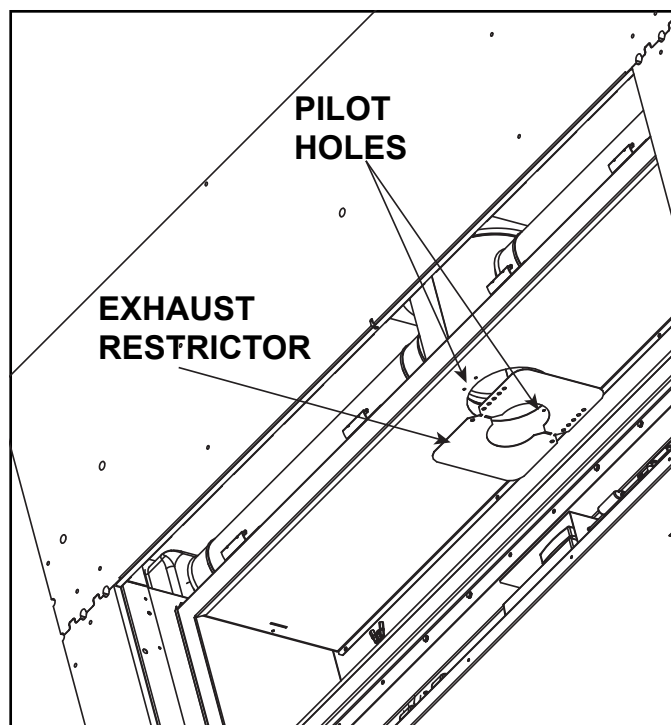

Figure 4.9 Exhaust Restrictor
1. Locate the two pilot holes in the inside firebox chamber as shown in Figure 4.9.